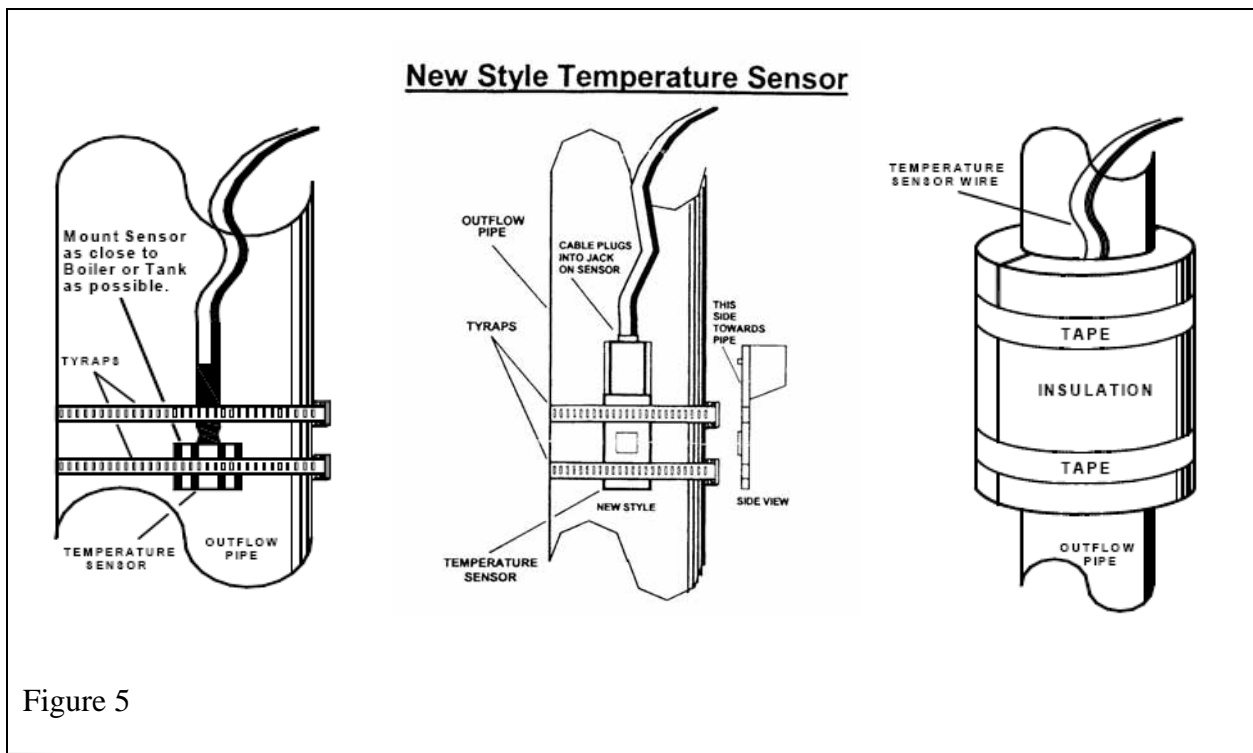

Figure 5
3. Cover the sensor with a piece of insulation and tape in place. See Figure 5.